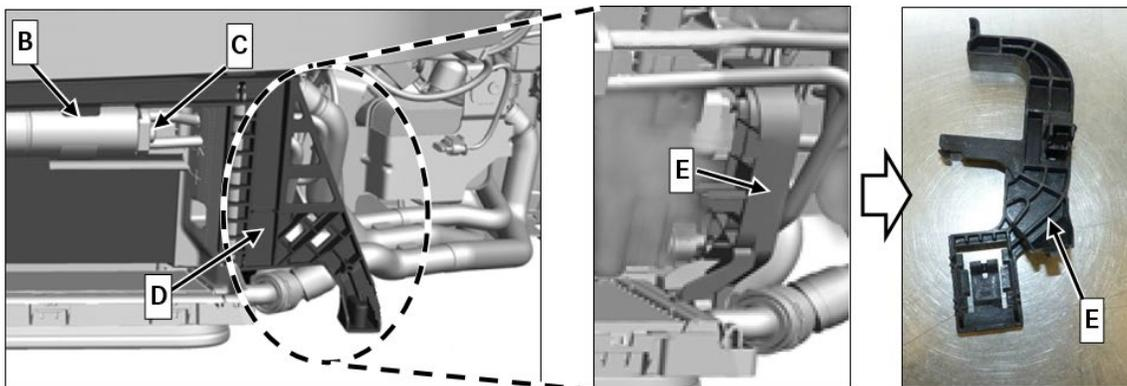

Figure 2
5. Unscrew the screw (C, Figure 2) at the receiver drier (B, Figure 2), then remove the holder for the refrigerant lines at the receiver drier (B, Figure 2).
6. Remove bracket (E, Figure 2) behind supporting frame (D, Figure 2).